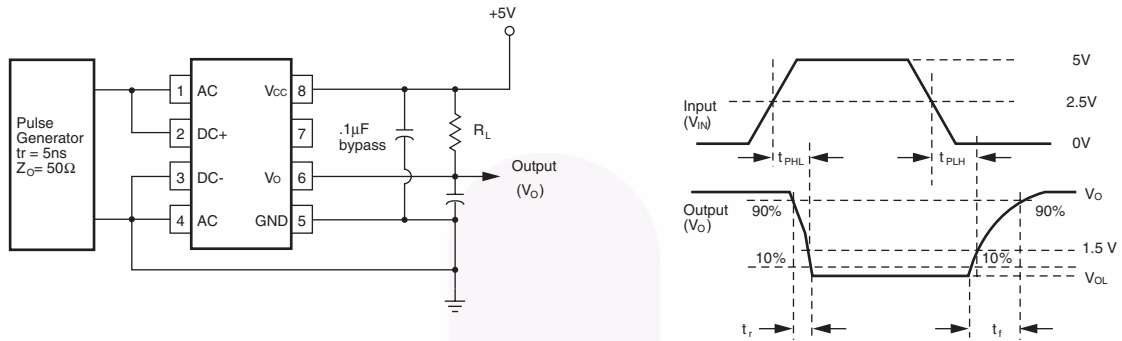

Fig. 9. Switching Test Circuit
6.  $T_{PHL}$  propagation delay is measured from the 2.5V level of the leading edge of a 5.0V input pulse (1 $\mu\text{s}$  rise time) to the 1.5 V level on the leading edge of the output pulse.  $T_{PLH}$  propagation delay is measured on the trailing edges of the input and output pulse. (Refer to Fig. 9)